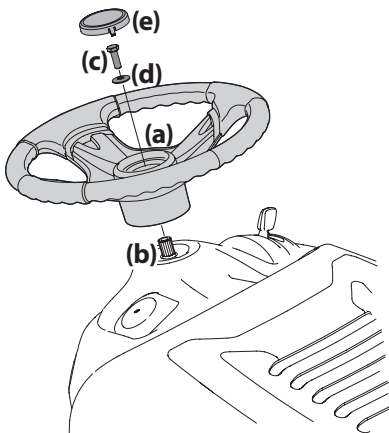

Figure 10
2. With the front wheels of the tractor pointing straight forward, align the steering wheel (a) and place it onto the steering shaft (b). See Figure 10.
3. Secure the steering wheel (a) with the hex bolt (c) and washer (d) from under the steering wheel cap (e) and torque to 18-22 ft-lbs (24-30 N-m). See Figure 10.
4. Place the steering wheel cap (e) over the center of the steering wheel (a) and push downward until it “clicks” into place. See Figure 10.